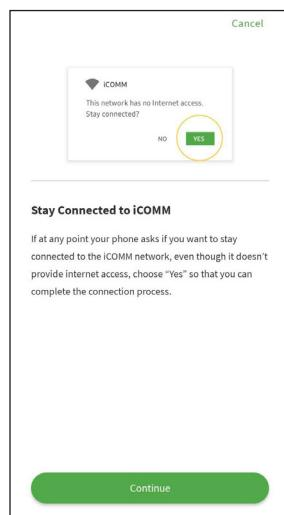

Figure 152 - Stay Connected to iCOMM
- 1 Select “Set Up Manually” from the *Unable to Connect* screen. The app will alert you to stay connected to the iCOMM network, even though it does not provide internet access (Figure 152). Select “Continue” to proceed to the next step.